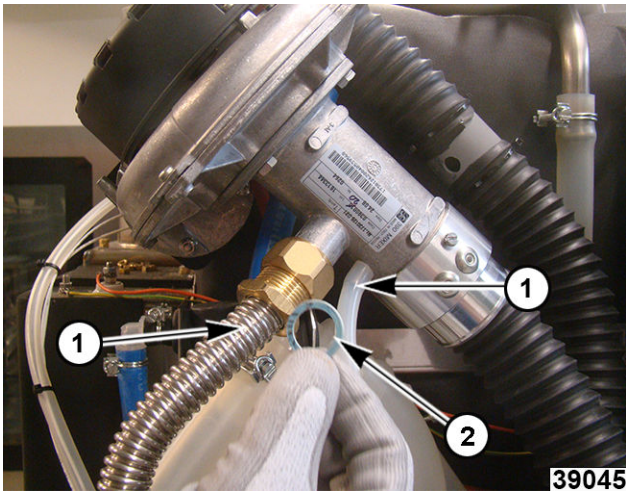

Fig. 102
NOTE: When disconnecting gas pipes, there will be a gasket (2, Fig. 102). Take care not to lose gasket or it may fall into an inaccessible area of the unit.
3. Note and disconnect burner gas piping (1, Fig. 102) connections.